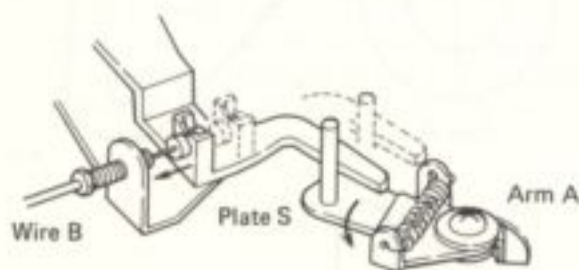

Fig. 15
1. If the STOP button is pressed during play, wire B moves plate S, and arm A moves (Fig. 15).